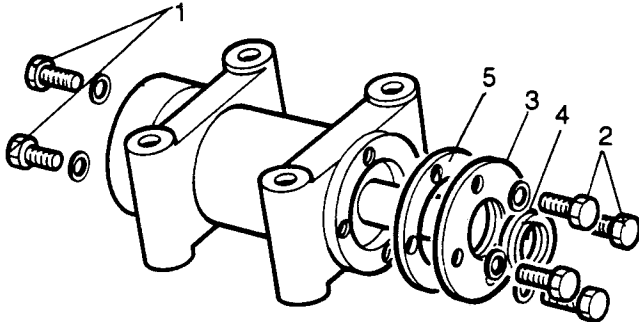

Fig L5.10
- (2) Refer to Fig L5.10. Remove the two of the securing bolts (1) from the relay top cover. Invert the relay and allow the oil to drain.
- (3) Locate the relay assembly horizontally in a vice.
- (4) Remove the four bolts (2) securing the relay lower cover (3).
- (5) Remove the lower cover complete with oil seal (4) gasket (5) and thrust washer. Discard the gasket.